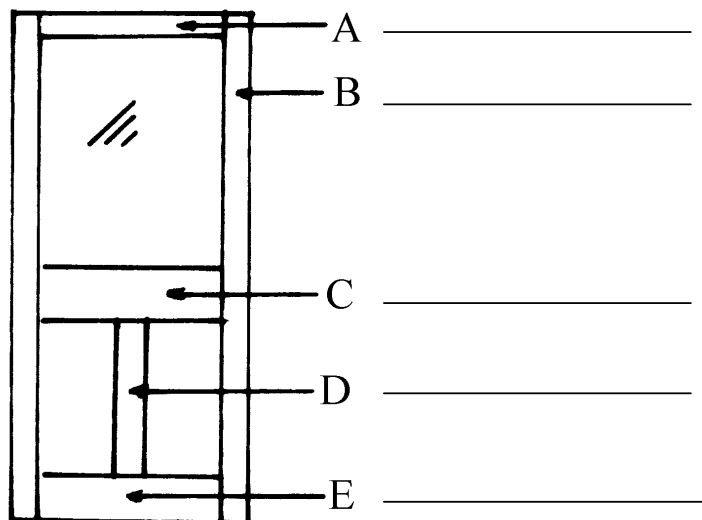

Fig. 2
13. Indicate the component parts of the half glazed and panelled door shown below in Figure 2.